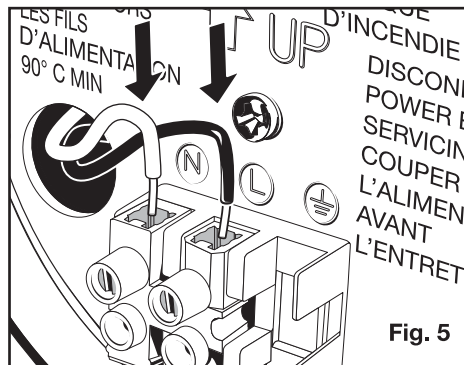
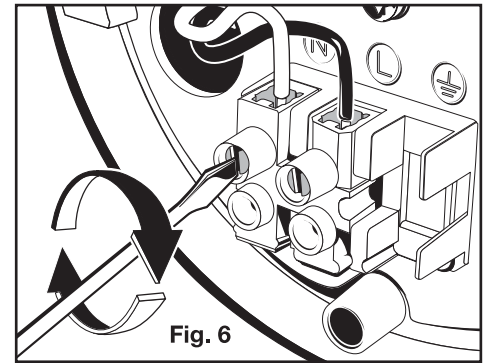

Fig. 5
Fig. 6
3. Insert the wires into their designated contact terminals **(Fig. 5)**. Insert the **Black Supply Wire** (Live) into the terminal marked "L", insert the **White Supply Wire** (Neutral) into the terminal marked "N" **(Fig. 6)** and tighten screws to both terminals **(Fig. 7)**.